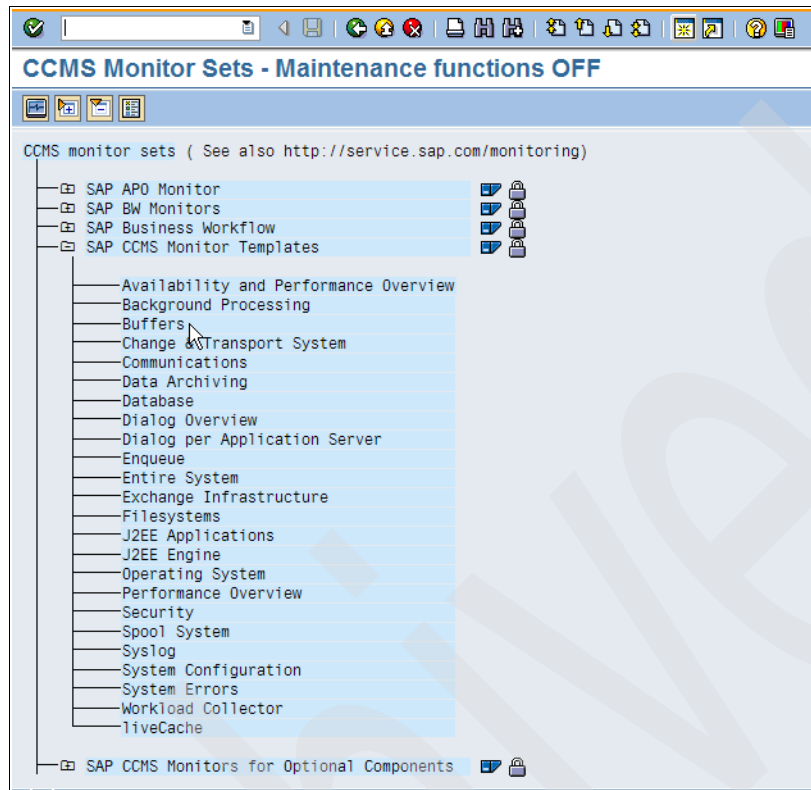

Figure 25-22 CCMS Monitor Sets (RZ20) - view CCMS Monitor Templates
1. Double-click **RZ20 CCMS Monitor Sets** and expand **SAP CCMS Monitor Templates**, as shown in Figure 25-22.